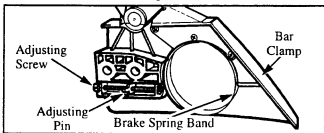

Figure 10
- Turn the adjusting screw (Figures 10 & 13) counter-clockwise to move the adjusting pin (Figure 10) almost as far as it will go to the rear.